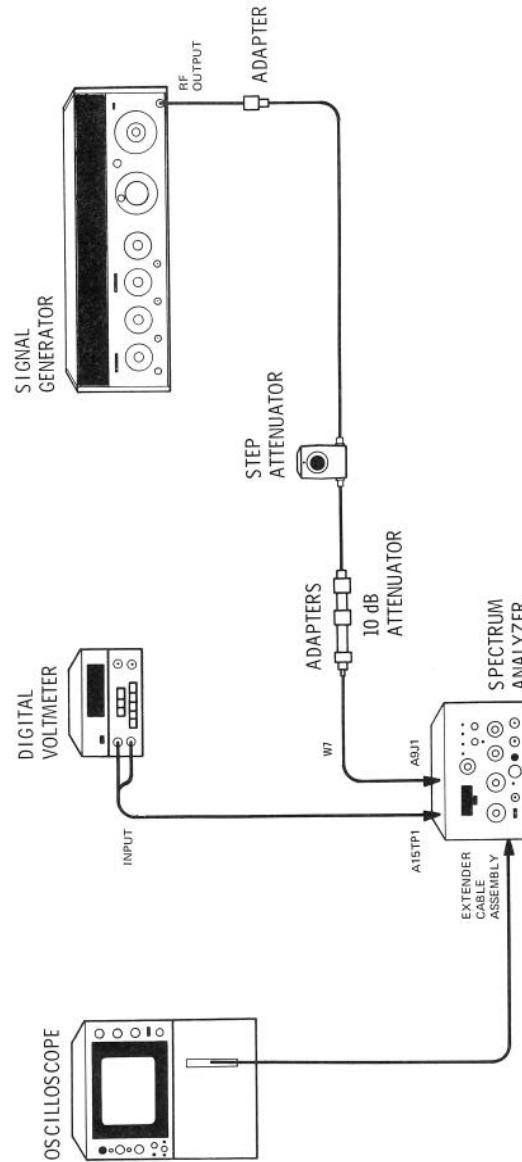

FIGURE 7-4. LOG AMPLIFIER ADJUSTMENT TEST SETUP (2142A &amp; BELOW)
- Connect equipment as shown in Figure 7-4. Set signal generator frequency to 301.4 MHz and output level to -13 dBm. Remove W7P1 from Second IF assembly A10J2. Connect signal generator output through step attenuator, 10 dB attenuator, and adapters to W7P1.